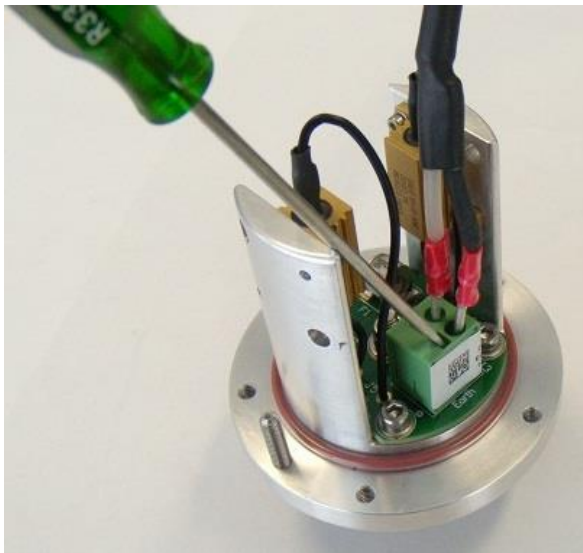

**Figure 9-10: Liquid-tight fitting thread**
**Note:** The Bushing Adaptor thread for the liquid-tight fitting is  $\frac{1}{2}$  in. NPSM as illustrated in Figure 9-10.